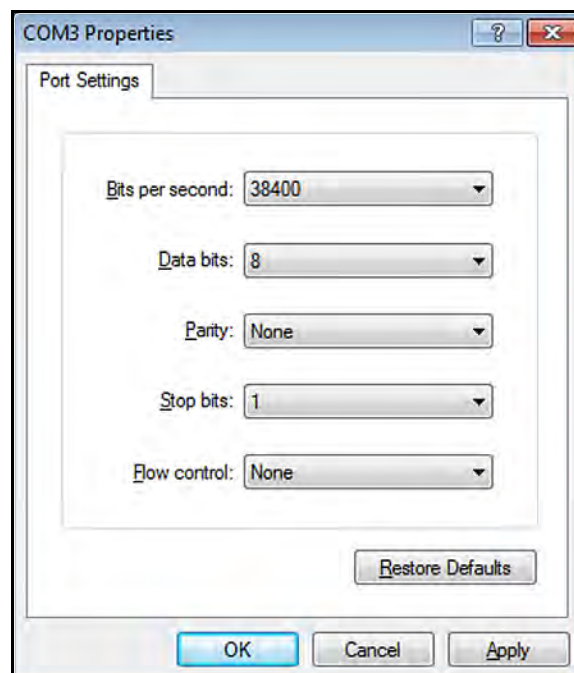

Figure 12: COM Properties
2. Start *HyperTerminal* and set up the communication link to match the Com port and RS232 settings of the PT878 (see *Figure 12* below).